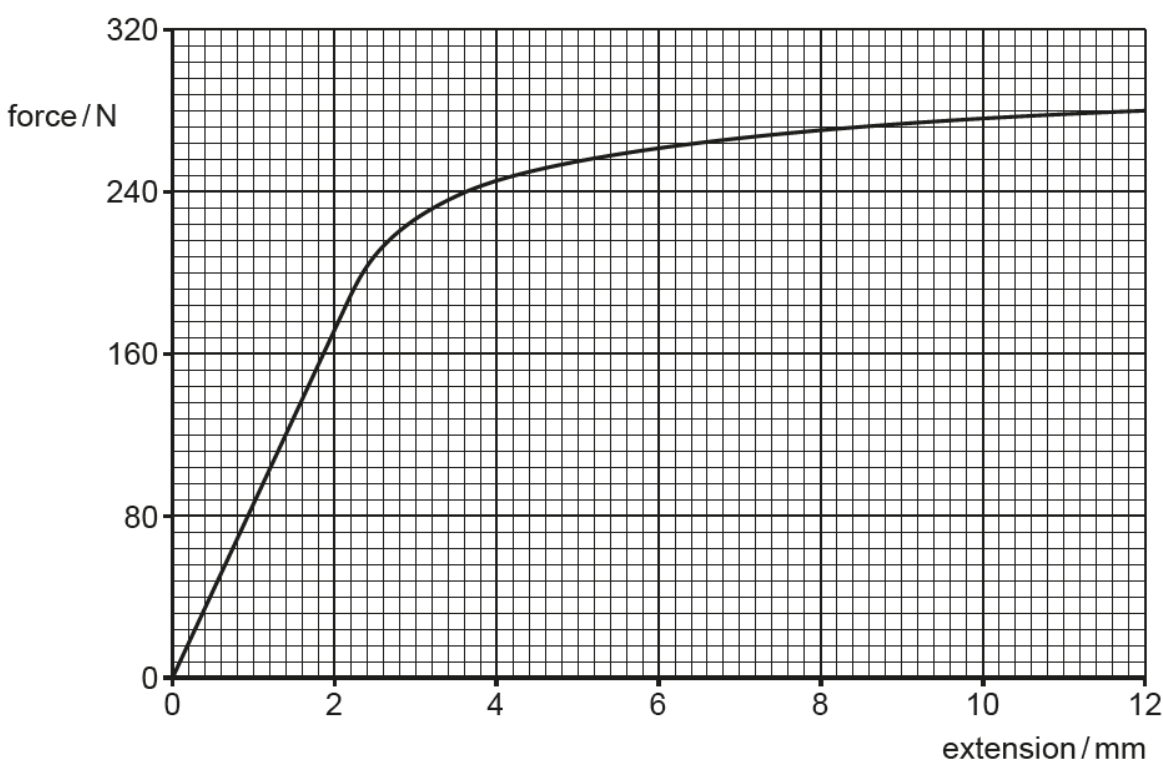

Fig. 3.3
(b) A copper wire is stretched by a tensile force that gradually increases from 0 to 280 N. The variation with extension of the tensile force is shown in Fig. 3.3.
- (ii) Use Fig. 3.3 to determine the strain energy in the wire when the tensile force is 120 N.